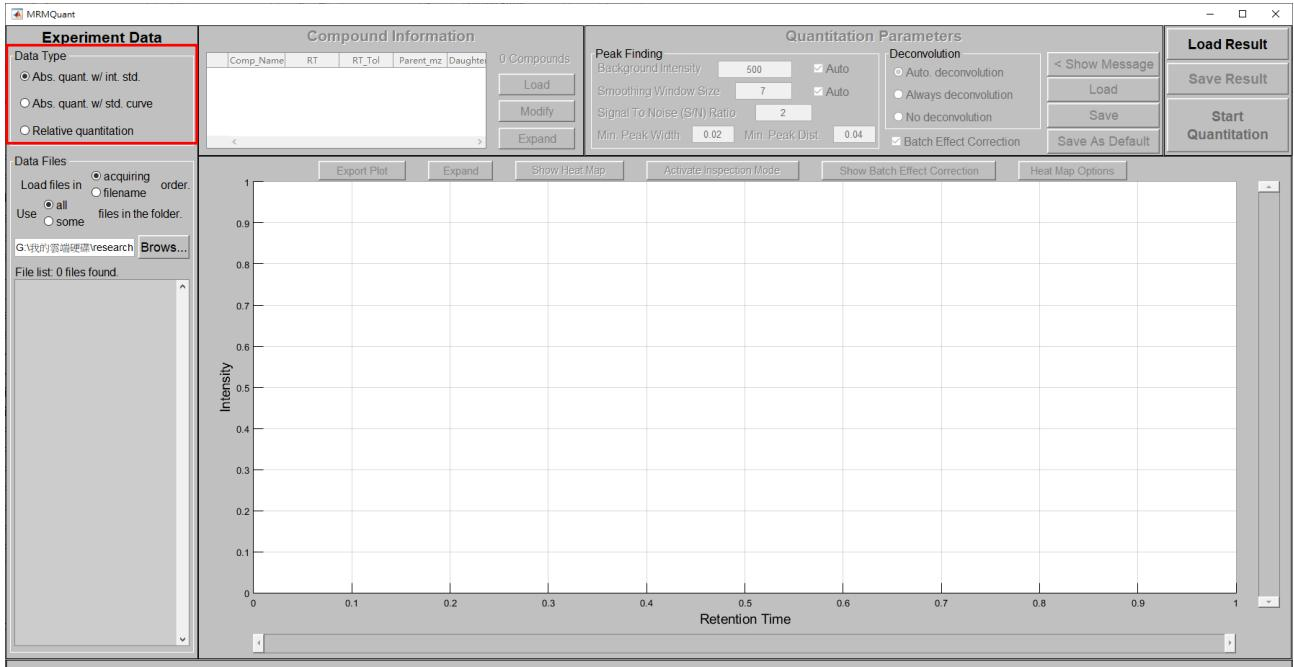

Figure 3. The data type panel in MRMQuant.
- 2 Select an experiment type:** In the "Experiment Data" panel, users need to first select a data type, as shown by the red block in Figure 3. In MRMQuant, there are 3 options: absolute quant. w/ int. std, absolute quant. w/ std. curve, and relative quantitation. The first type was designed to compute concentrations (e.g., mol./mL.) of targeted compounds in the MRM sample files via internal standards of known concentrations intentionally put in the samples. Similar to the first type, the second type was designed to compute concentrations via standard curves constructed using another set of sample files with targeted compounds of known concentrations. The third type, on the other hand, was designed to compute relative abundances of the targeted compounds. The abundance means the integrated peak signals in an ion chromatogram in an MRM sample file.